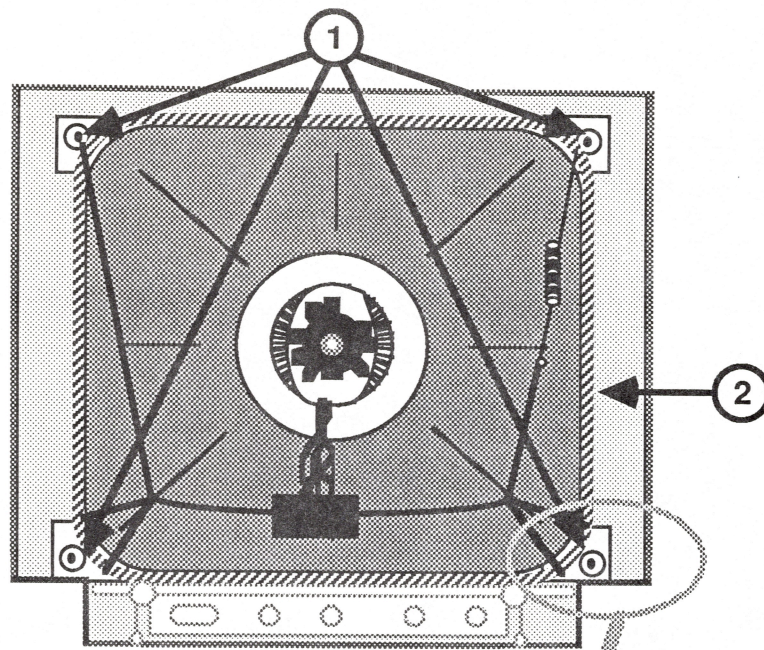
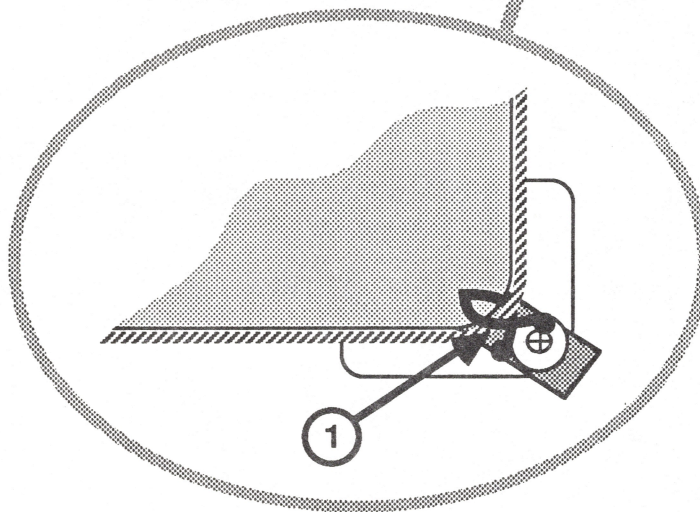

FIGURE 29
FIGURE 30
6. Unscrew the four CRT mounting screws (Figure 29, #1).
7. Carefully lift the CRT/degaussing coil assembly out of the front bezel. On the IIc, the degaussing coil (Figure 29, #2) is mounted to the CRT with plastic holding tabs (Figure 30, #1). On the IIe, the degaussing coil is mounted inside the bezel and must be removed separately (after the CRT is removed).